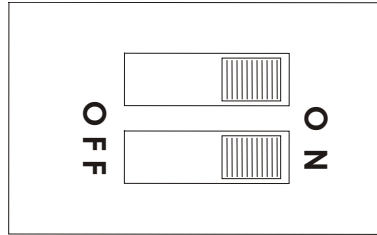

Figure 10-3 12V DO Dip Switch
- 3) Using a sharp tool (such as tweezers, a small screwdriver, or the tip of a ball-point pen), through the plastic wrap set the S3 dip switch (see Figure 10-3) on the DO module board to the desired position, SW1 = OFF, SW2 = OFF, according to the legend in Table 10-1.